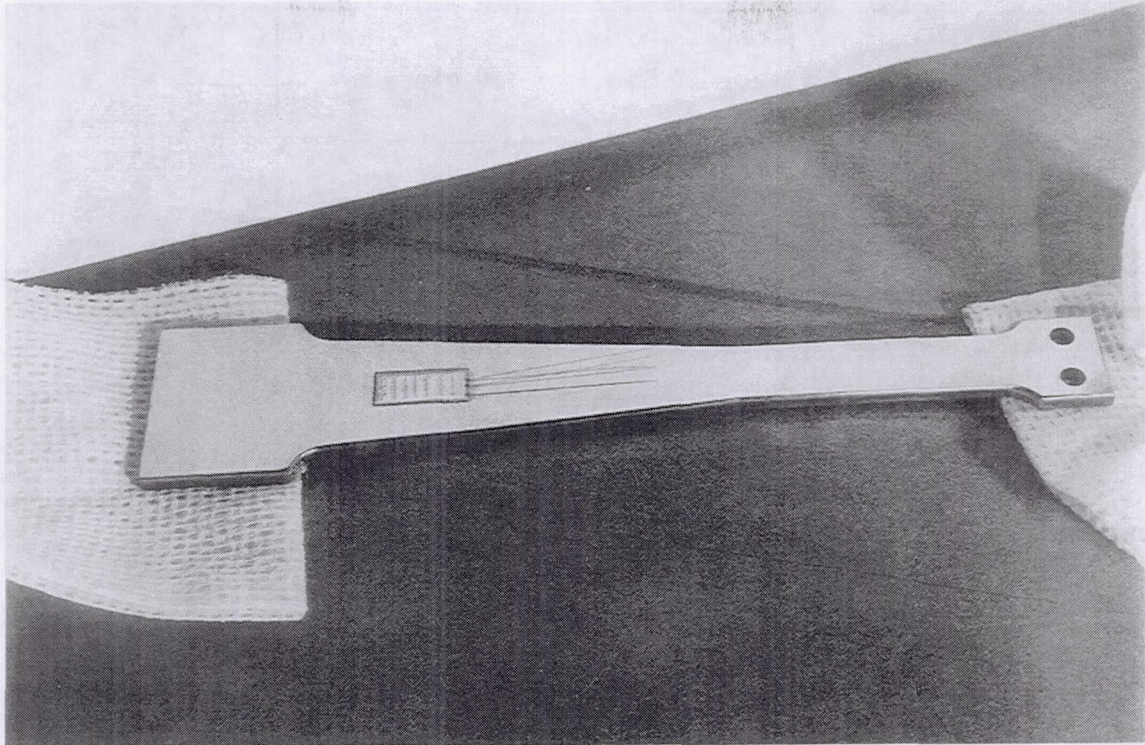

FIGURE 12. Completed gage installation on constant stress test beam.
- Figure 12. Completed gage installation on constant stress test bar.